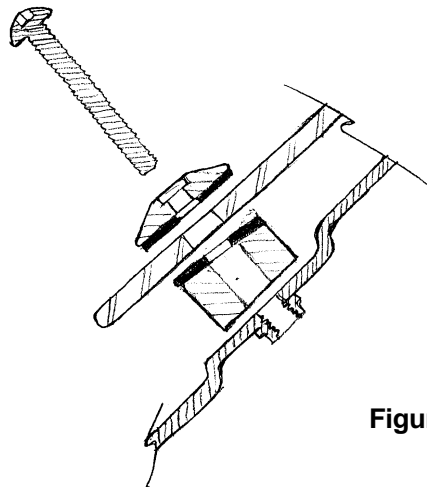

Figure 1
1. Place two stainless steel screws through aluminum washers, through the windshield's two bottom holes, through the long aluminum spacers – rubber washer against the windshield surface -, and into the two bottom threaded mounting holes in the fairing. Rotate the spacers so that the mark on the lowest height is pointed toward the ignition key. See Fig. 1. Turn in the screws very loosely.